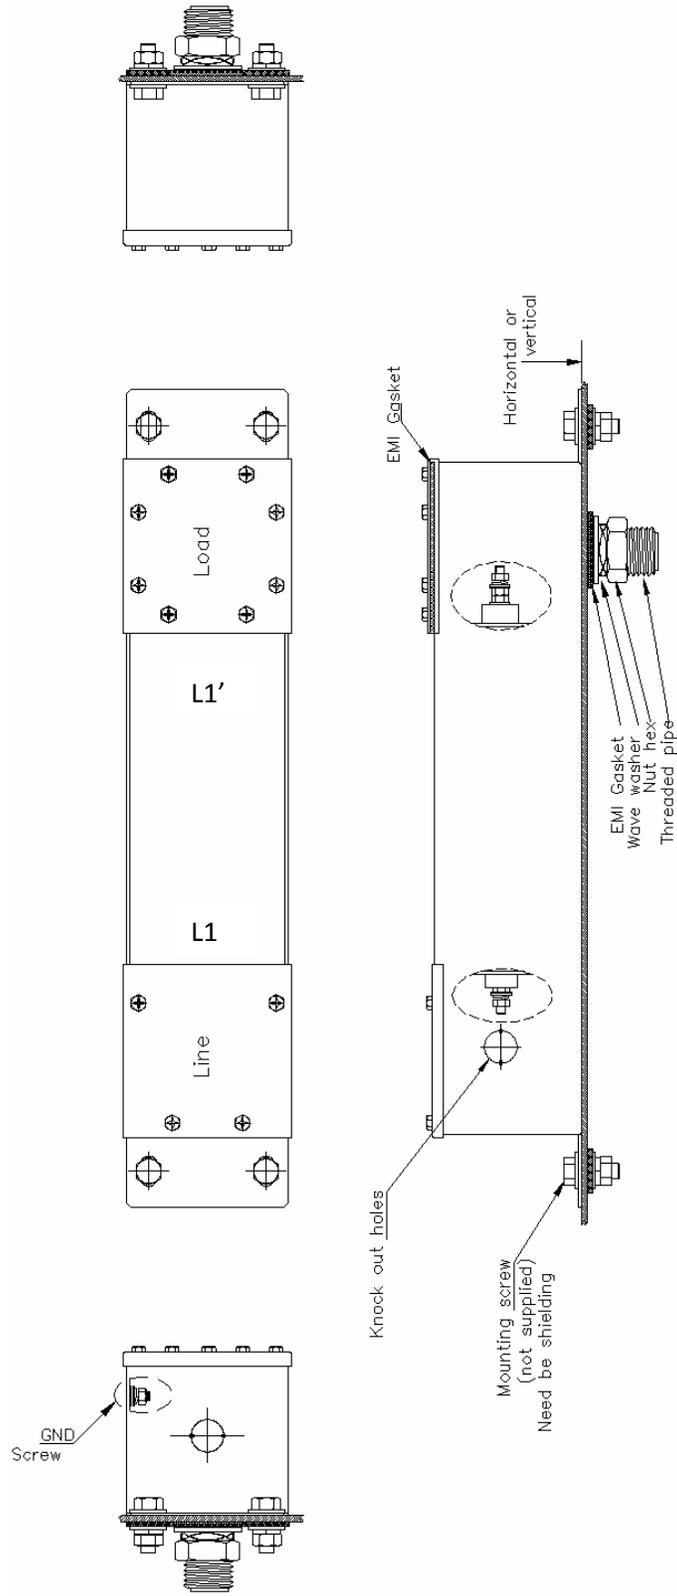

Figure 1
3. Install filter on the shielded room or enclosure per figure 1.